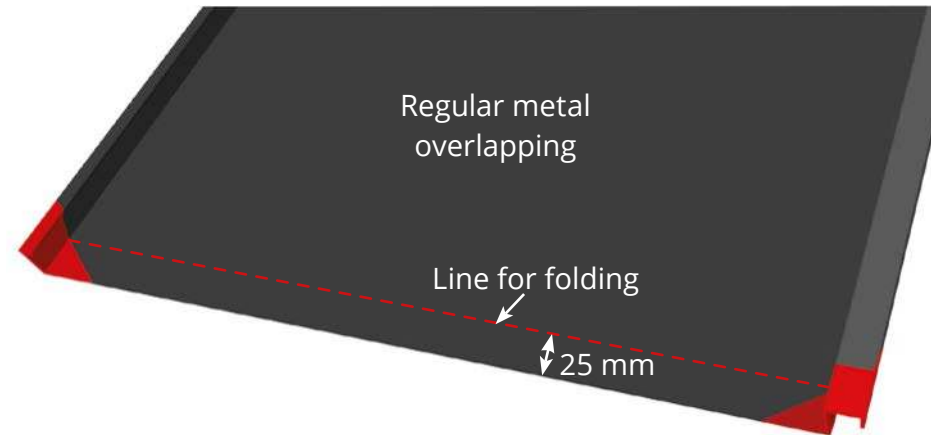

Fig. 11
- b. Leaving a 25 mm space for folding (Fig.11).